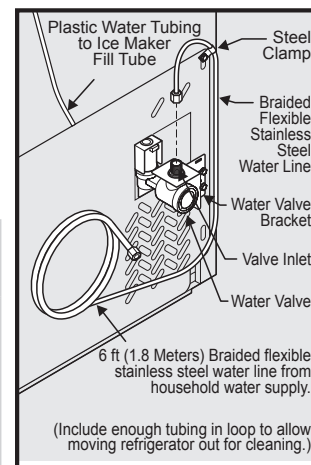

Figure 2
- If you use braided, flexible stainless steel tubing - The nut is already assembled on the tubing. Slide nut onto valve inlet and finger tighten nut onto valve. Tighten another half turn with a wrench; DO NOT overtighten. See Figure 2.